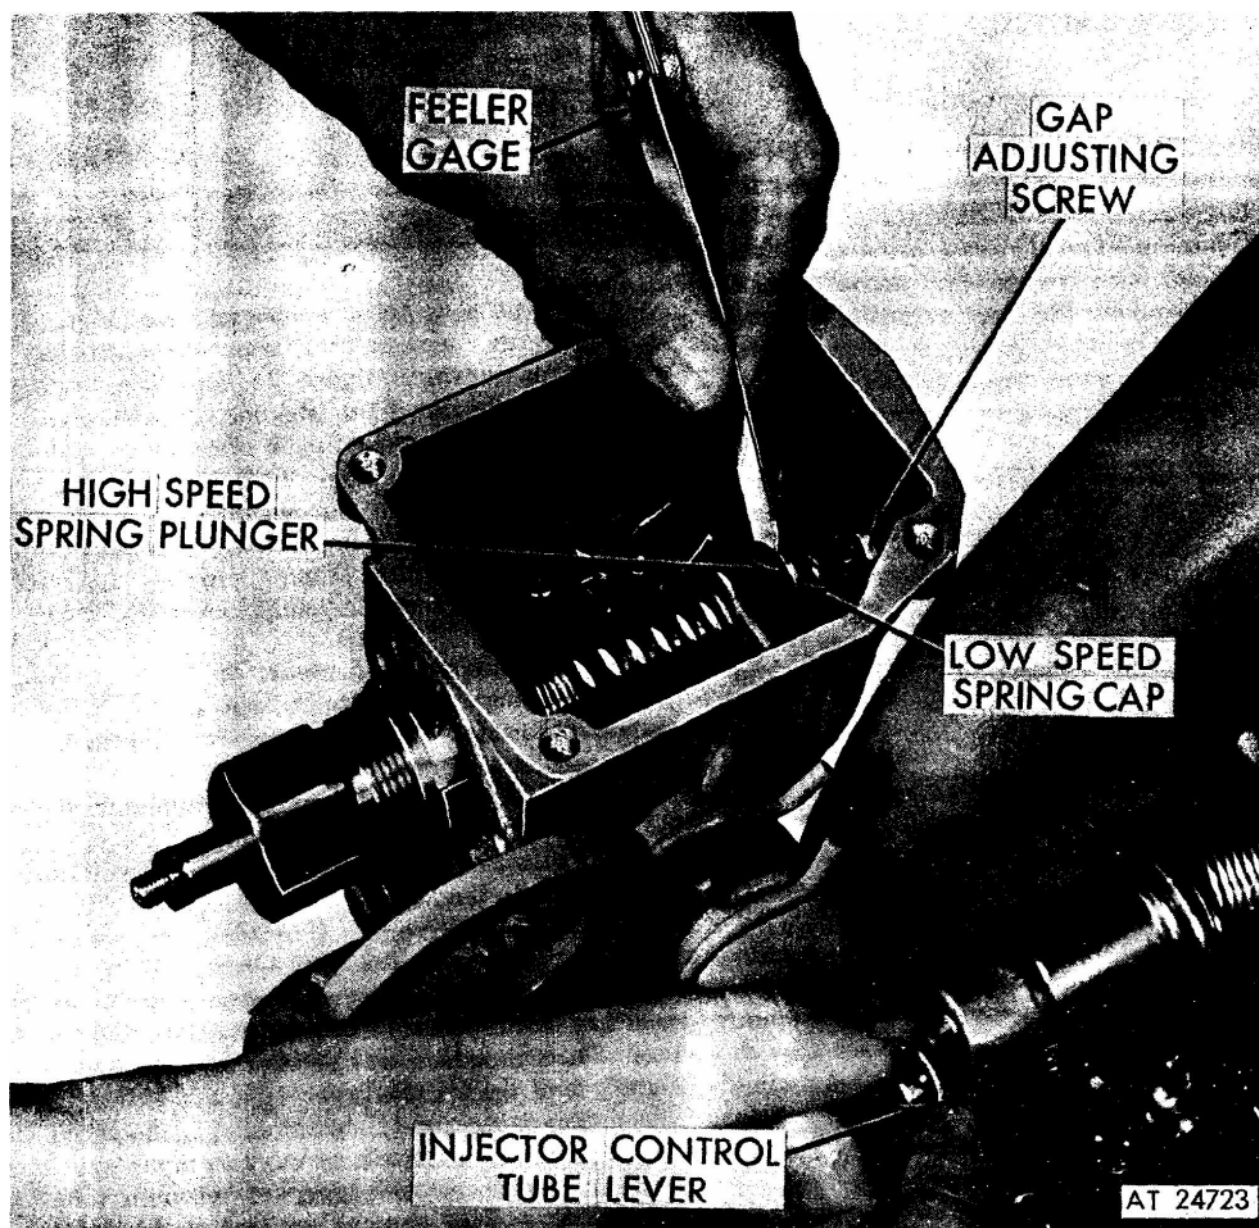

Figure 1. Adjusting governor gap—tool J 3172.
7. Check the gap between the low speed spring cap and the high speed spring plunger with a .0015" feeler gage. If the gap setting is incorrect, reset the gap adjusting screw (fig. 1). If the setting is correct, the .0015" movement can be seen by placing a few drops of oil into the governor gap and pressing a screw driver against the gap adjusting screw. Movement of the cap toward the plunger will force the oil from the gap in the form of a small bead.